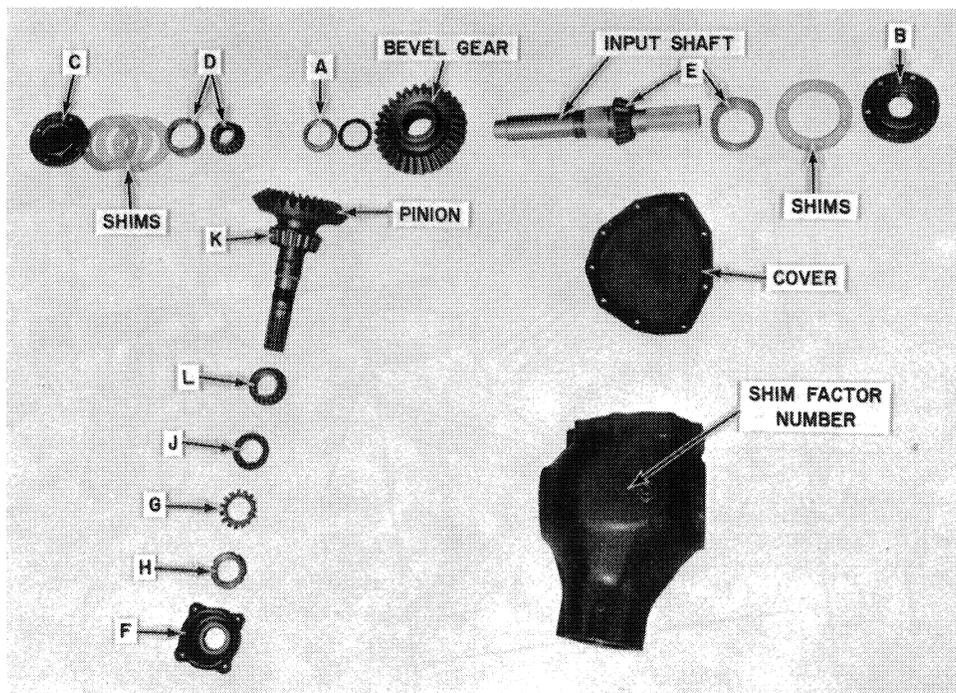

FIGURE 4
1. Before installing the pinion and bearings K and L determine the shims required behind bearing K. To determine the number of shims a number will be stamped on the gearbox near the filler plug. See Figure 4.